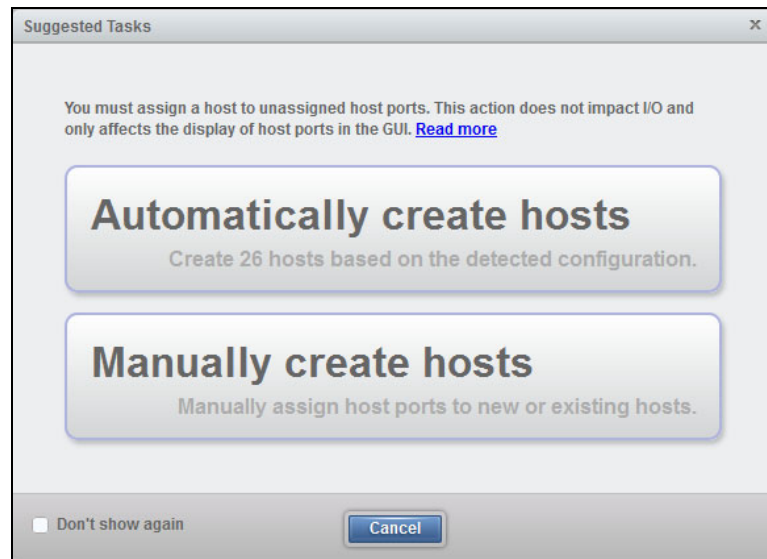

Figure 11-48 Hosts Suggested Tasks
3. With Release 8.2 of DS8880 microcode, the host ports are automatically updated. If there are any detected unassigned host ports, a suggested task window opens with two options as shown in Figure 11-48.